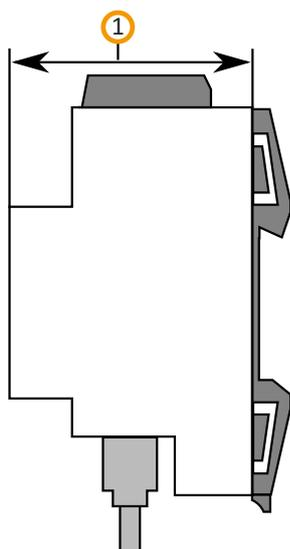

Figure 15: Device depth
Pay attention to the device depth (see figure 15, item 1): DRA Plus, 74 mm.